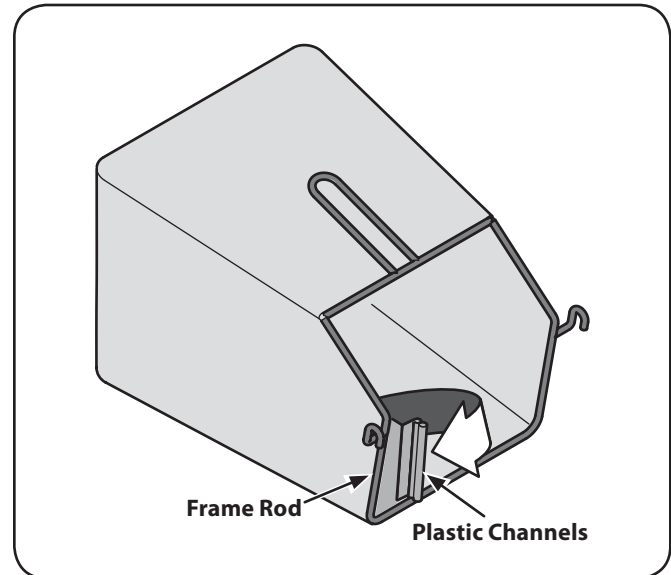

Figure 3-8
1. To assemble the grass bag, secure the plastic channels of grass bag over frame rods. See Fig. 3-8.